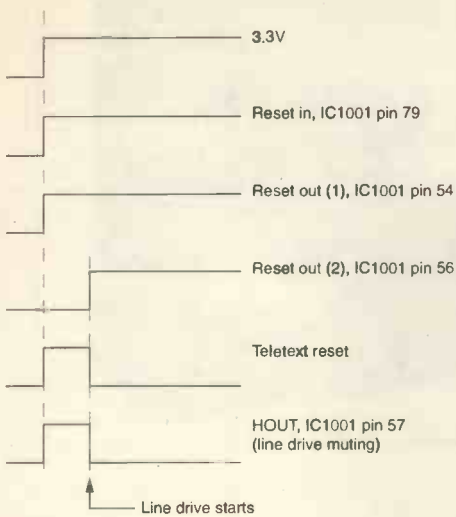

Fig. 45: Reset timing diagram.
Fig. 45 shows the reset timing. Resets are a change of state, from low to high or high to low. The order of events is as shown: establishing the 3.3V supply; reset in at pin 79 of IC1001; reset out (1) at pin 54; reset out (2), pin 56. The line generator starts when reset out (1) has occurred, but line drive will not be present until the mute (HOUT) from pin 57 of IC1001 has been released (0V).